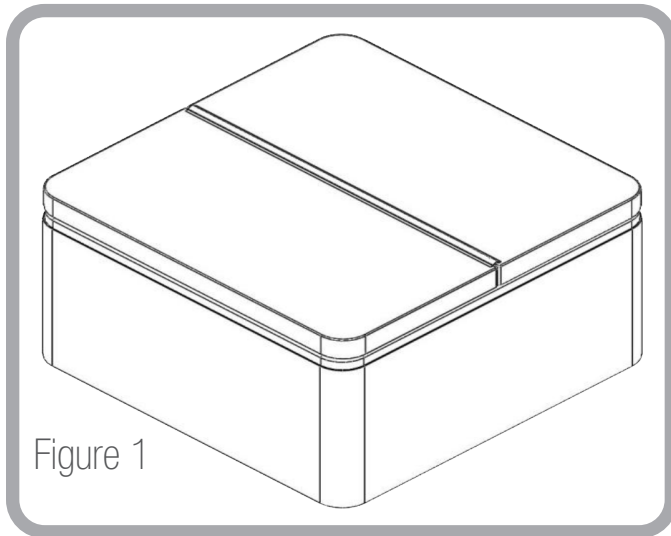

Figure 1
- Position the spa cover in the closed position on the spa, making sure that all four corners are properly positioned and square on the spa. See Figure 1.